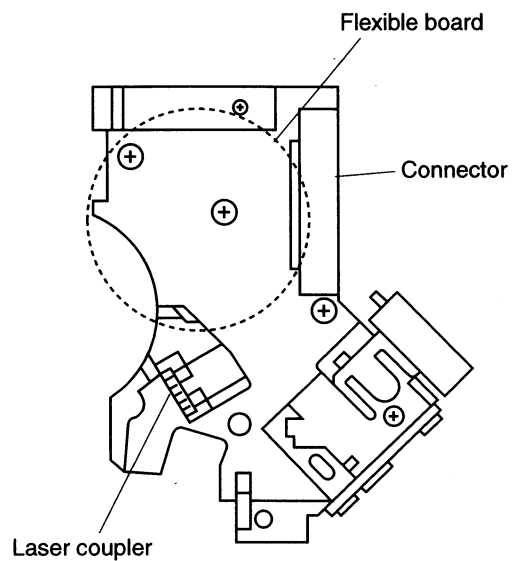

**Fig. 6 Flexible board**
- 2) As for the flexible board KHS-180A (RP) packed as service parts, the short lands have been soldered to protect from static electricity. Accordingly, remove solders when replacing optical pick-up. (See Fig. 6)